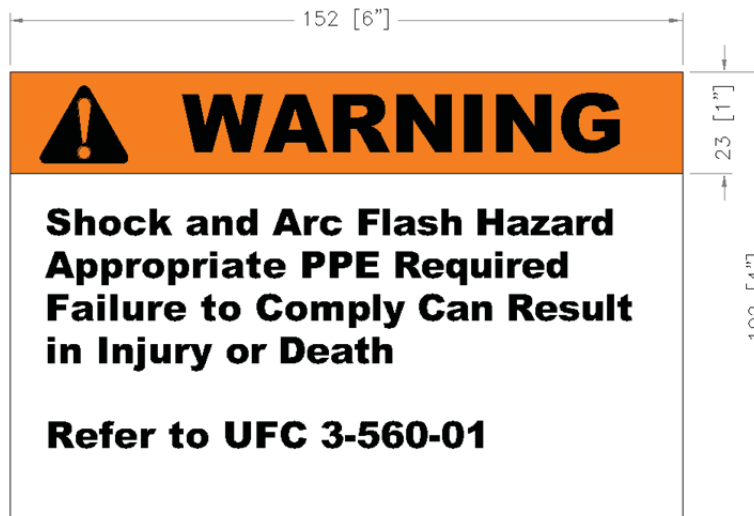

Figure-12 Arc Flash Warning Label for Primary Distribution System
- Figure-12 Arc Flash Warning Label for Primary Distribution System